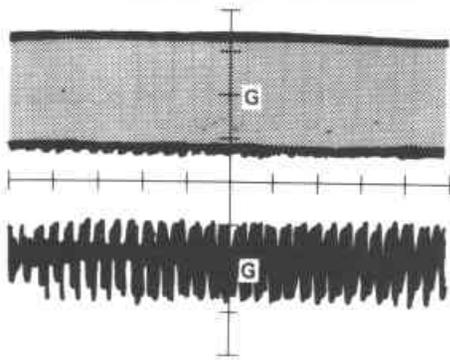

Fig. 22
- 3) If TE signal seems to be oscillating (TS gain is too high) as shown in Fig. 22, adjust VR151 down.